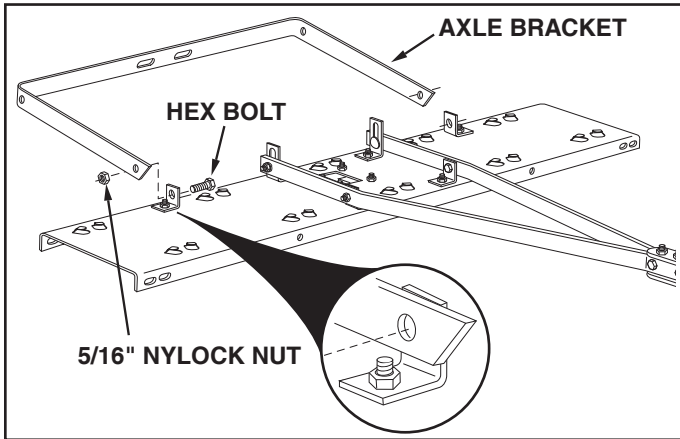

FIGURE 5
11. Assemble the axle bracket on the outside of the angle brackets using two 5/16" x 1" hex bolts and 5/16" nylock nuts. The ends of the axle bracket must point as shown in figure 5. **Tighten** and then **loosen** the bolts and nuts slightly.